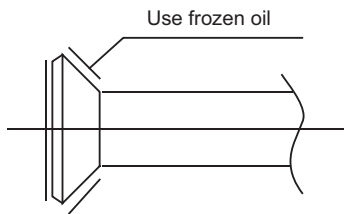

Fig. 6-1
- ① Bend the tubing in proper way. Dont harm them.
- ② Daub the surfaces of the flare pipe and the joint nuts with frozen oil, and wrench it for 3~4rounds with hands before fasten the flare nuts. (Refer to Fig.6-1)
- ③ Be sure to use two wrenches simultaneously when you connect or disconnect the pipes.